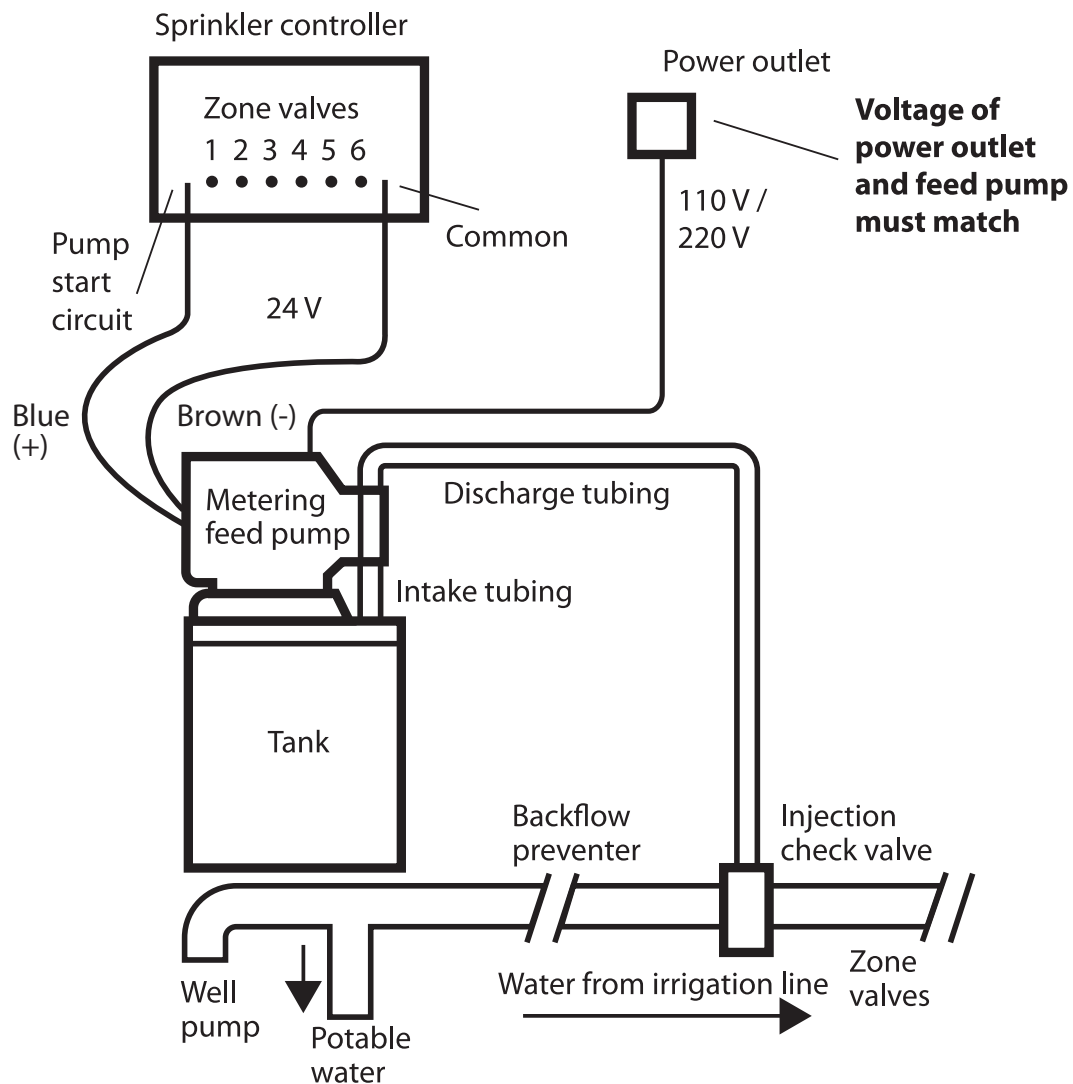

Fig. 1
3. Using 5/16" drill bit, drill suction line hole thru lid at pilot depression. (Fig. 1) Feed free end of suction tube thru drilled hole in lid.